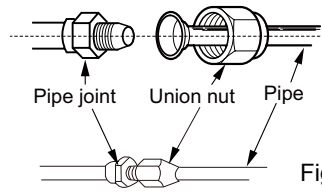
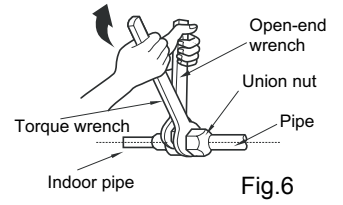

Fig.5
Fig.6
- (1) Aim the pipe joint at the corresponding bellmouth. (As show in Fig.5)
- (2) Pretightening the union nut with hand.
- (3) Adjust the torque force by referring to the following sheet. Place the open-end wrench on the pipe joint and place the torque wrench on the union nut. Tighten the union nut with torque wrench. (As show in Fig.6)